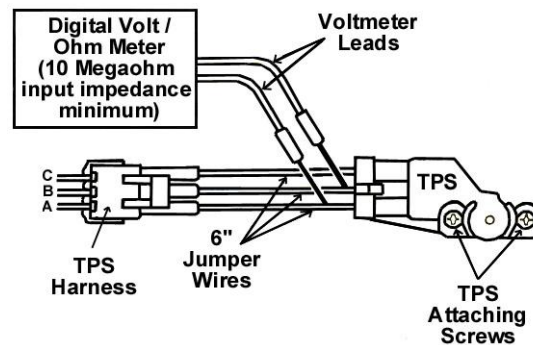

Figure 2
1. Connect the digital voltmeter from the TPS connector center terminal (B) to the bottom terminal (A). Make the jumper wires up with #16, #18, or #20 wire approximately 6" long. See Figure 2.